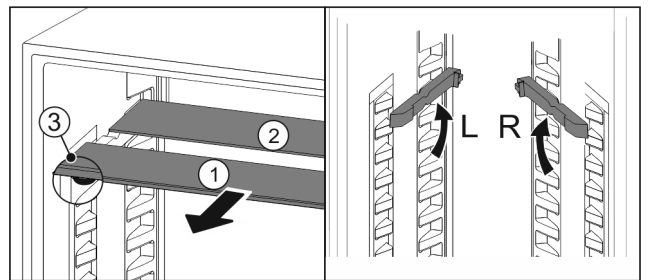

Fig. 81
- ▶ Pull the glass panels out Fig. 81 (1) from the front, one at a time.
- ▷ The glass panel Fig. 81 (1) and trim strip are at the front.
- ▷ The stops Fig. 81 (3) point down.